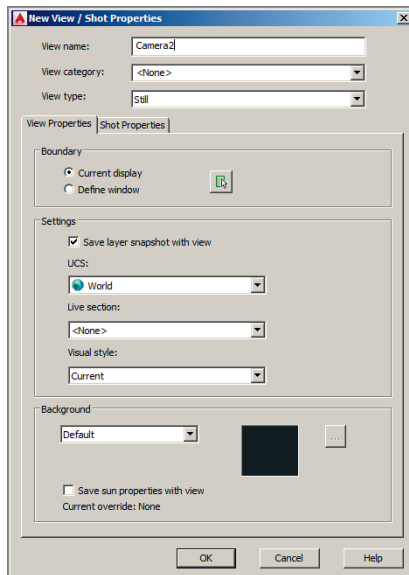

FIGURE 16.22 Saving a new view
2. In the New View / Shot Properties dialog box that appears, type **Camera2** as the view name (see Figure 16.22). Click OK twice to close both open dialog boxes.